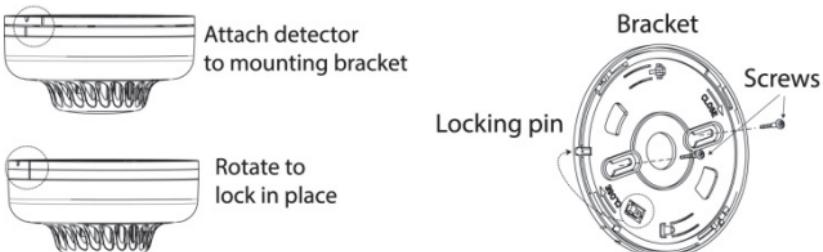

Figure 7: Smoke and heat detector installation
To install the detector (see Figures 7 & 8)
2. Remove the locking pin securing the mounting bracket to the unit (see Figure 7).
6. Using screws (supplied) attach the bracket to the wall as shown in Figure 7.
Insert the locking pin in order to secure the mounting bracket to the detector (see Figure 7).